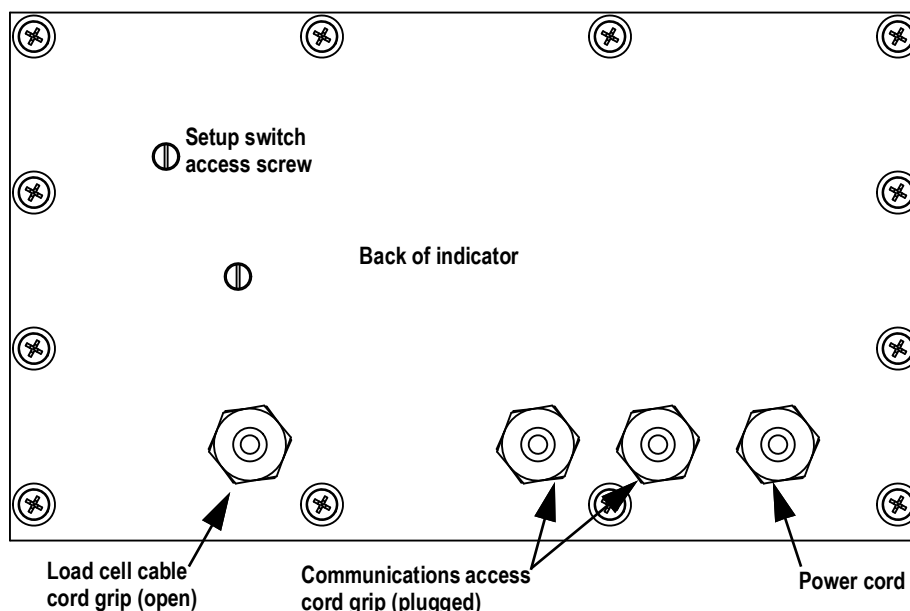

Figure 2-1. Recommended Cord Grip Assignments
1. Remove the setup switch access screw from the back of the enclosure, See Figure 2-1 on page 18.
The 482 provides four cord grips for cabling into the indicator: one for the power cord, three to accommodate load cell, communications, digital inputs and outputs, and analog output cables. Two of the three free cord grips come with a plug installed to prevent moisture from entering the enclosure. Depending on the application, remove the plug from another cord grip that will be used and install cables as required, See Figure 2-1 for the recommended assignments for the 482 cord grips.